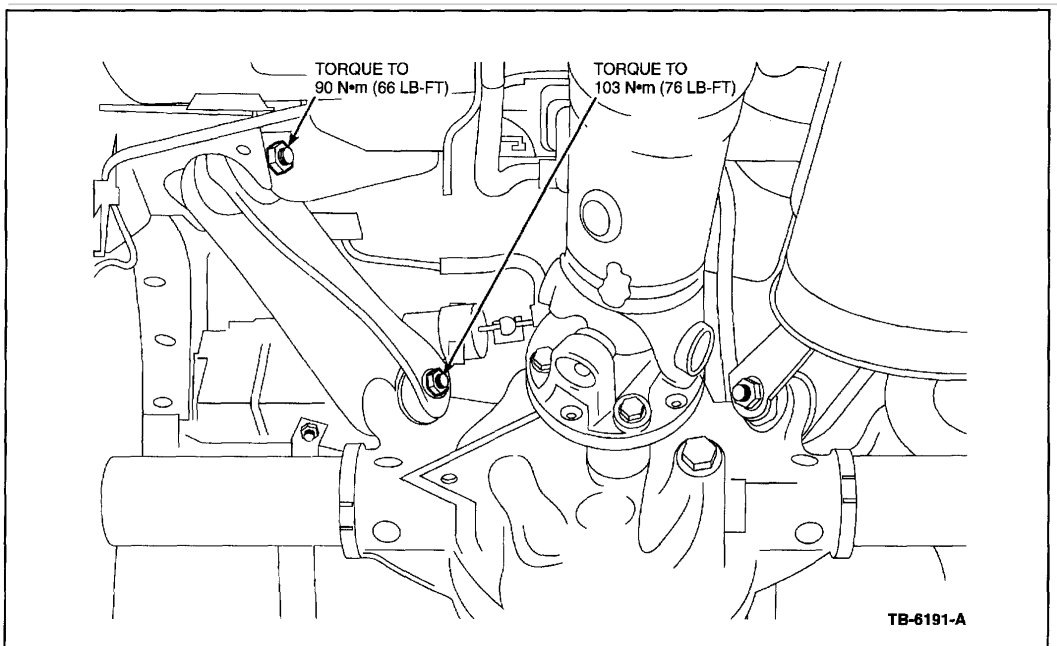

Figure 3
3. Torque the control arm bolts as follows (refer to Figure 3):